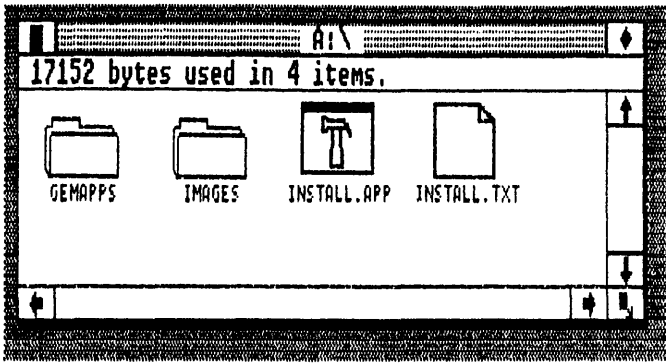

Fig. 3-1. Double-click on the INSTALL.APP icon for installing GEM Paint.
- ☐ Double-click on the INSTALL.APP icon (Fig. 3-1).